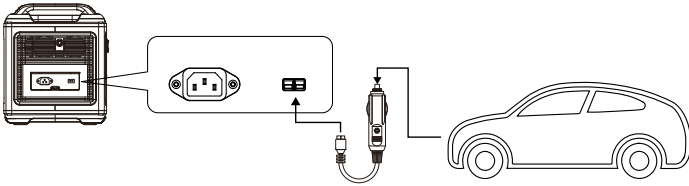

Figure 2: Car charging setup
2. Use a suitable cable with Anderson/cigarette lighter plug ends and connect the vehicle to the Anderson port. See [Figure 2: Car charging setup \[▶ 13\]](#).